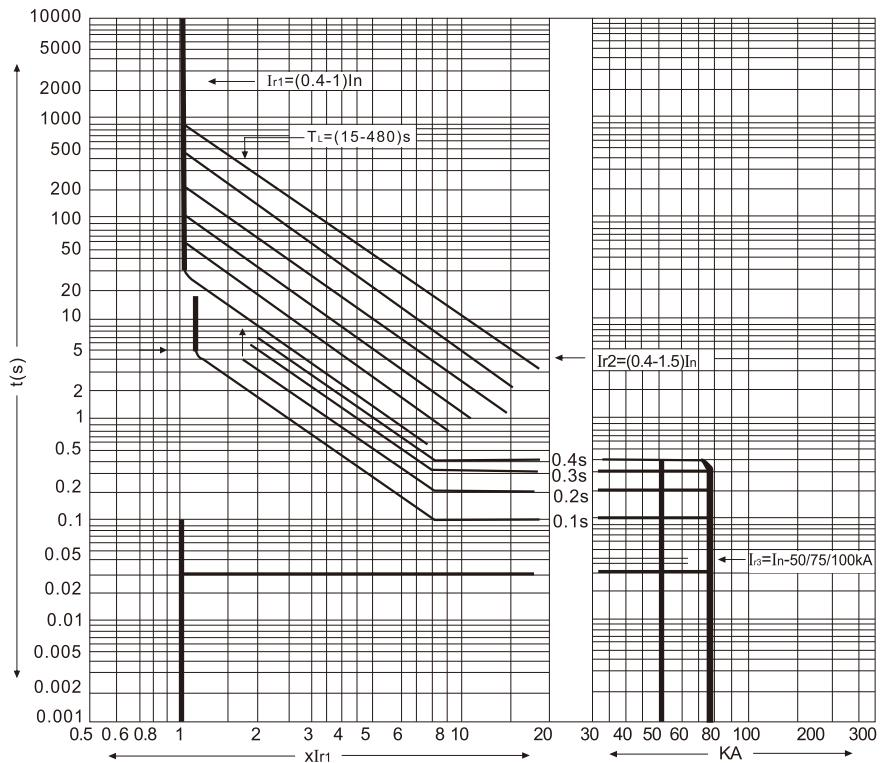
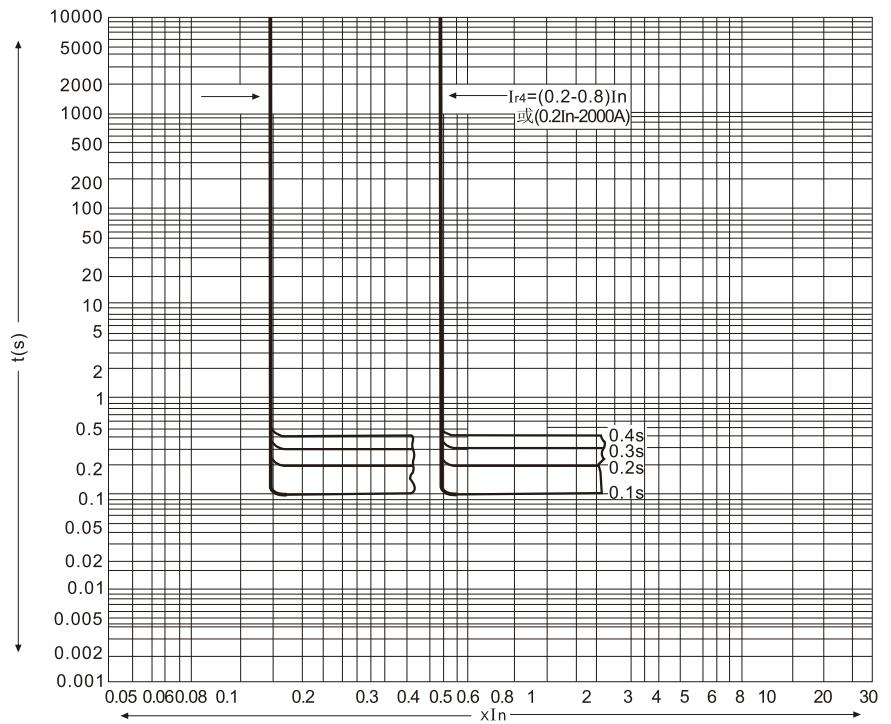

Fig. 1
Fig. 2
- Overcurrent controller protection characteristic curve: long delay, short delay, instantaneous action protection characteristic curve is shown in Figure 1; Ground fault protection characteristic curve is shown in Figure 2.
D. The protection characteristics of over current trip are shown in Figure 1, and the protection characteristics of ground fault are shown in Figure 2.
Overcurrent trip protection characteristics are shown in Figure 1
Ground fault protection characteristics are shown in Figure 2